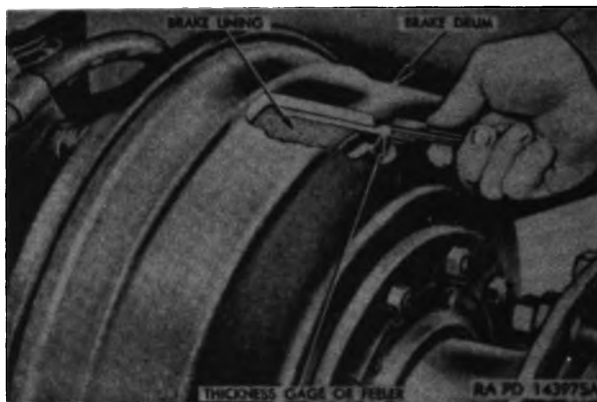

Figure 155. Checking clearance between brake lining and drum.
- (4) Remove the wheel and tire assembly (par 111a) and insert a thickness gage or feeler (fig. 155) through the inspection hole in the brake drum to check the clearance between the brake lining and the brake drum. Rotate the drum, taking care not to twist or damage the gage. The clearance between the lining and drum should not be less than 0.025-inch or greater than 0.050-inch. If it does not fall within these limits, readjust the brakes as in (3) above.
- (5) When the brakes are properly adjusted, install the wheel and tire assembly (par. 111b).